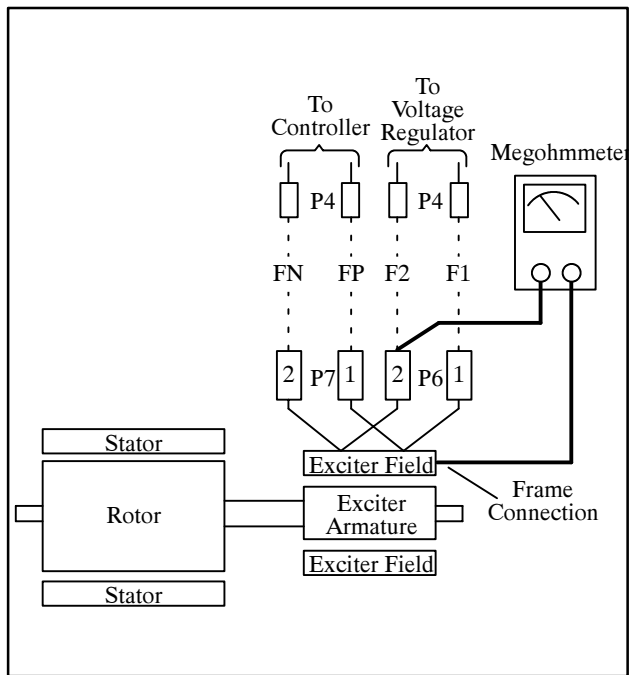

Figure 7-20. Megohmmeter Connections on Exciter Field
3. Check exciter field for a grounded condition. Disconnect P5, P6, and P7. Using a megohmmeter, apply 500 volts DC to F1 or F2 lead and exciter field frame. See Figure 7-20. (Follow the instructions of the megohmmeter manufacturer when performing this test.) A reading of approximately 500K ohms (1/2 megohm) and higher indicates the field winding is good. A reading of less than 500K ohms (approximately) indicates deterioration of winding insulation and possible current flow to ground. Repair or replacement of the exciter field is necessary.